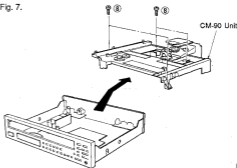

Fig. 7
- a. Remove 4 screws (⑧) as shown in Fig. 7.
b. Take out the CM-90 Unit out slowly as shown in Fig. 7.